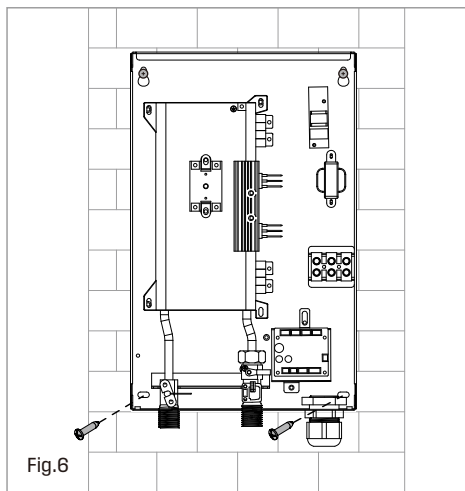

Fig.6
6. Hang the unit on the two screws installed previously, secure the two lower screws, and tighten the two upper screws (Fig.6).